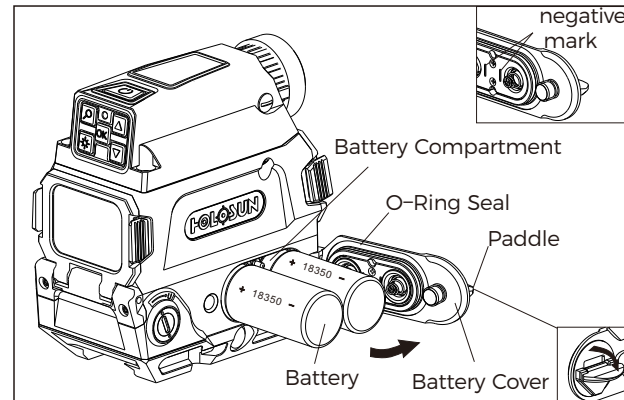

Fig2
1. Battery Installation(Figure 2)